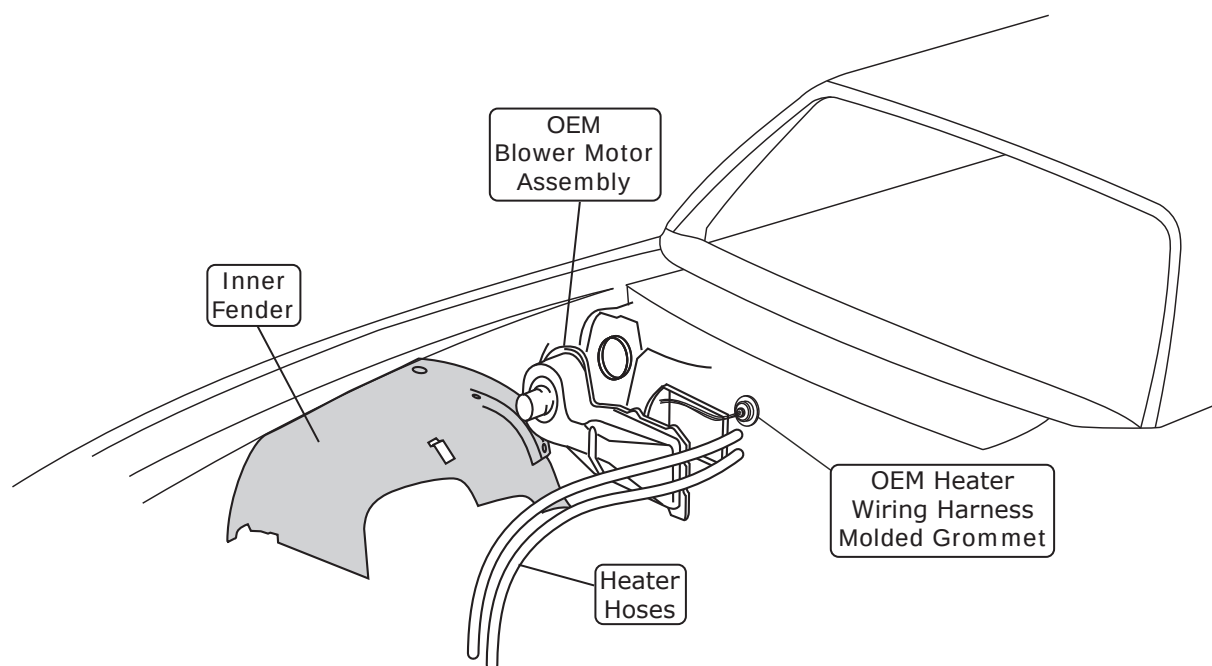

Figure 1
3. Remove the OEM heater hoses (discard) (See Figure 1, below).
4. Remove the OEM heater wiring harness molded grommet (discard) (See Figure 1, below).